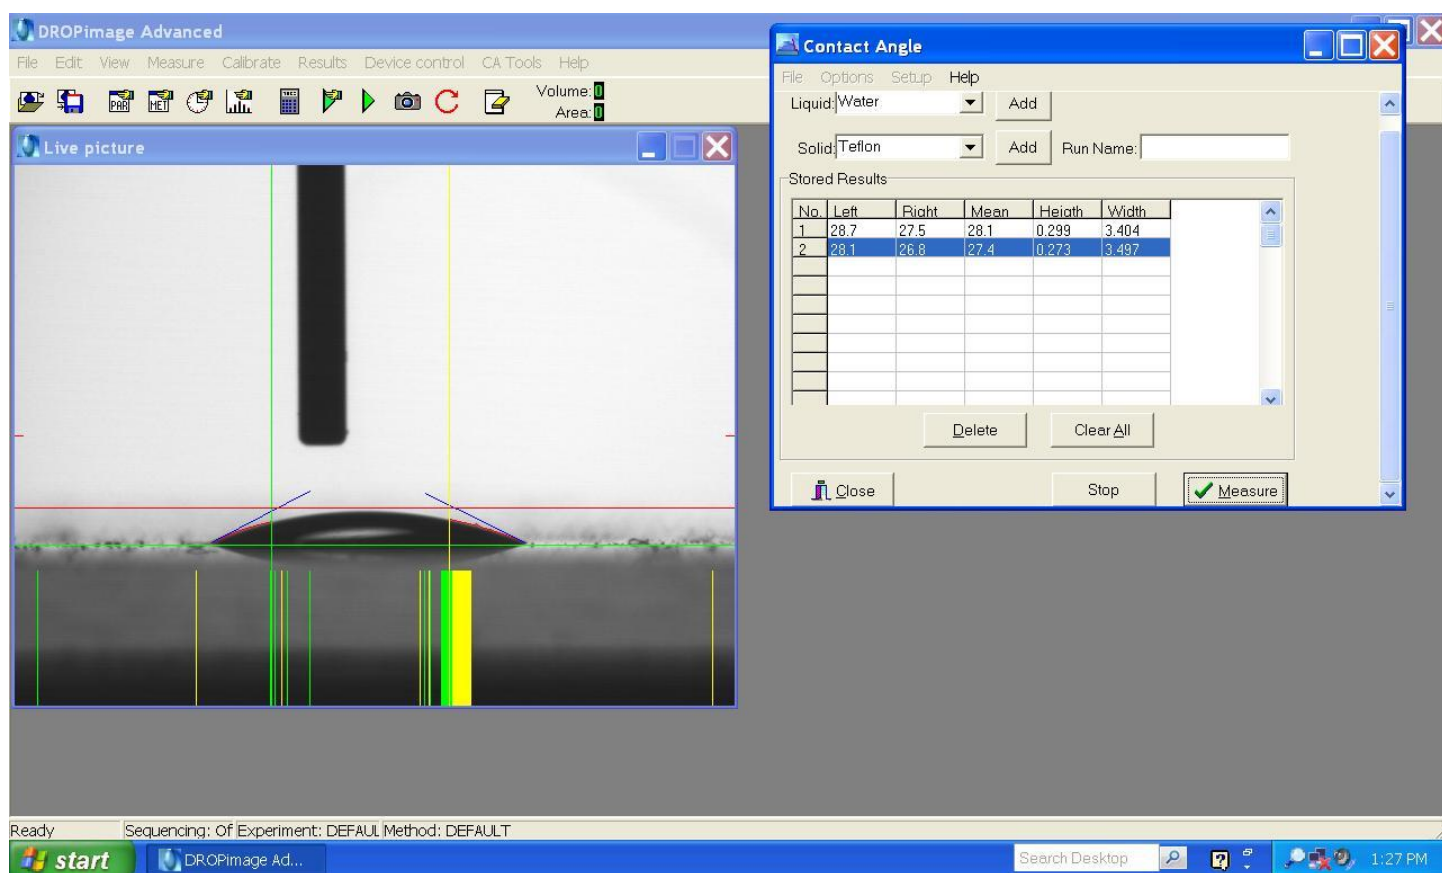

Figure 4 Measurement of Contact Angle
8. Click **Measure** to get contact angles for both sides, Fig. 4. Difference between left and right angle should be ~1 degree (if not, the surface may need to be leveled).